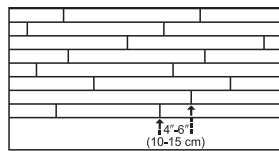

Figure 4 Preferred Alignment
- Be attentive to staggering the ends of boards at least 4"-6" (10-15 cm), when possible, in adjacent rows (Figure 4). This staggering pattern will help ensure a more favorable overall appearance of the floor.
- Check for a tight fit between all edges and ends of each plank. End-joints of adjacent rows should be staggered 4"-6" (10-15 cm) when possible, to ensure a more favorable overall appearance (Figure 4).